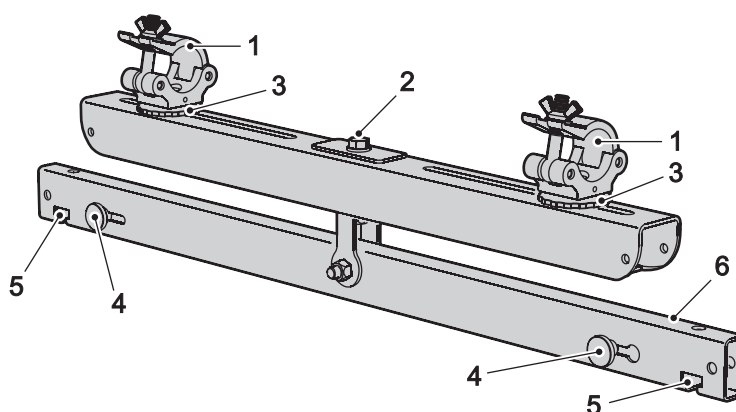
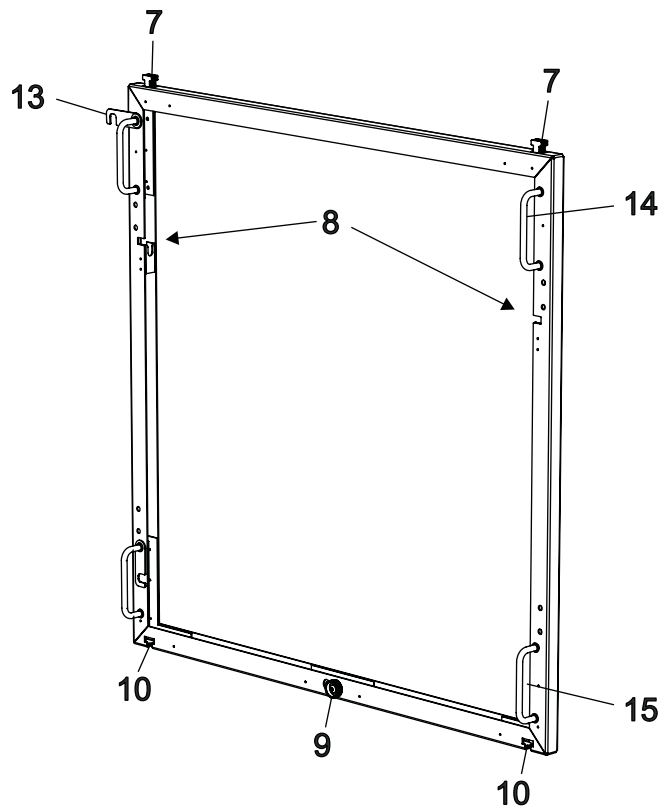
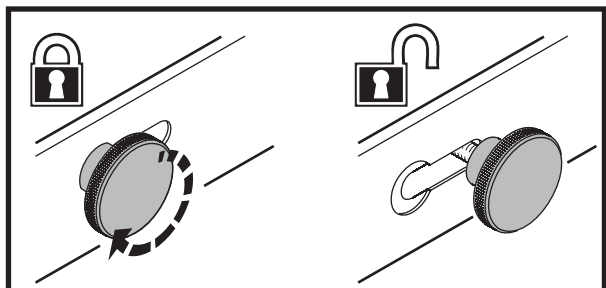
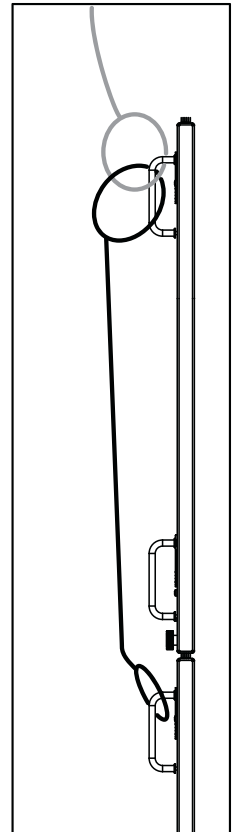

Figure 2: Mounting hardware
Figure 3: Frame
Figure 5: Securing frame lock knobs
Figure 6: Additional safety wire
2. See Figure 2. Loosen the clamp position locking rings (3) and slide the clamps (1) as wide apart as possible but making sure they will still match up with the supporting truss or other structure.
3. Lock the clamp position locking rings (3) to secure the clamps in position.
4. Adjust the height of the frame mounting bar so that it can move freely by turning the height adjustment bolt (2) counter-clockwise to lower the frame mounting bar, clockwise to raise it.
5. Loosen the frame mount locking knobs (4) and slide them towards centre of the frame mounting bar (6) to open the locks in the frame mount holes (5).
6. Insert the frame mount T-hooks (7 in Figure 3) into the frame lock holes (5 in Figure 2).
7. Slide the frame mount locking knobs (4 in Figure 2) fully out from the center towards the ends of the hanging bracket and tighten them. Make sure that they are locked as shown in Figure 5 on page 9. The frame is now secure.
1. See Figure 3 on page 9. Loosen the panel-to-panel locking knob (9) and slide it to your right to open the latches in the panel-to-panel mounting holes (10).
2. Insert the frame mount T-hooks (7 in Figure 3) of the second panel into the frame mounting holes (5 in Figure 2) of the first panel.
3. See Figure 5. Slide the panel-to-panel locking knob (9 in Figure 3) fully to the left and tighten it. The panel is now secure.
- See Figure 6. Attach one end of the safety wire through *both* the top handle (**14** in Figure 3) on the first frame *and* the already mounted safety wire. Attach the other end of the safety wire through the top handle (**14** in Figure 3) of the second frame to secure it below the first frame.
- If desired, continue suspending panels beneath each other following the instructions given in points 1. to 4. above. Check that all safety wires are attached exactly as shown in Figure 6 and described above.